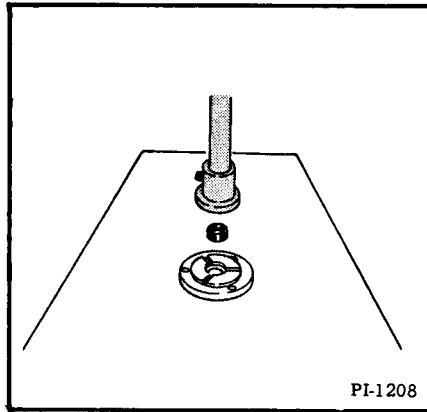

Fig. 25 Installing New Seal in Pilot Plate
(2) Install a new seal in the pilot plate. Be sure it is started straight. Press it into its proper location (Fig. 25).
(3) Inspect the pump drive shaft for wear at the seal seat. If the wear is no more than a smooth groove several thousandths of an inch deep, the seal should function satisfactorily. If wear has roughened the seat, it is possible to polish it with emery cloth if the wear is not too deep. This should be only a temporary repair. If possible, the seal seat should be ground on a cylindrical grinder and polished, or the shaft should be replaced with a new one.